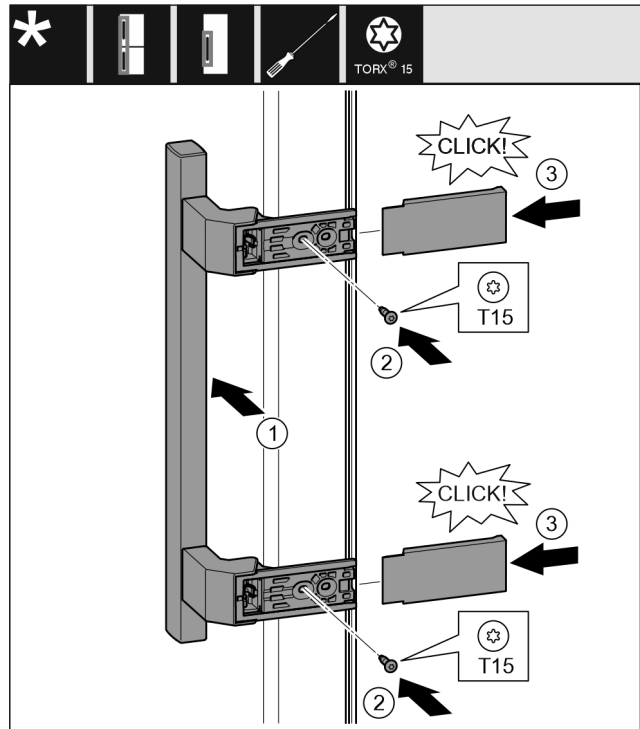

Fig. 20
- Position the handle on the other side. Fig. 20 (1)
- Tighten the screw with a T15 screwdriver. Fig. 20 (2)
- Position the covers on the side and push them on. Fig. 20 (3)